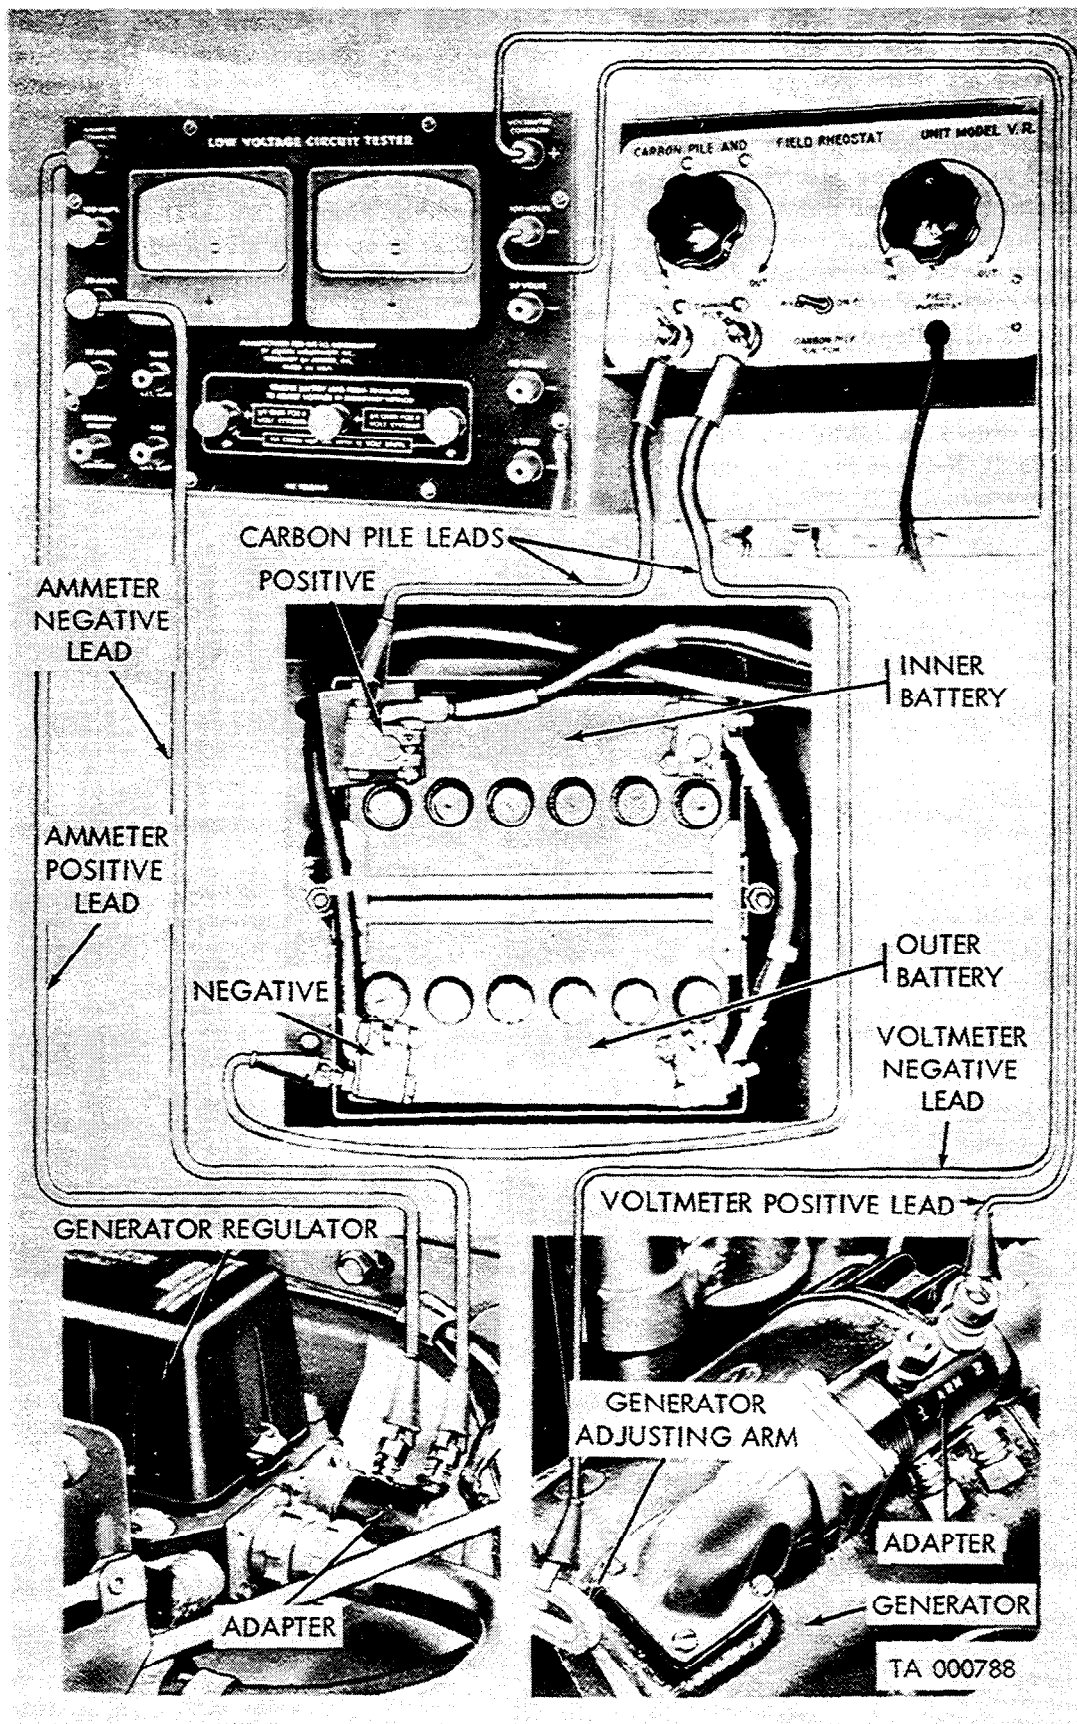

Figure 2-32. Checking maximum charge.
e. Check Maximum Charge (Fig. 2-32). Checking the maximum charge is to determine whether the current regulator of the generator regulator is functioning properly.